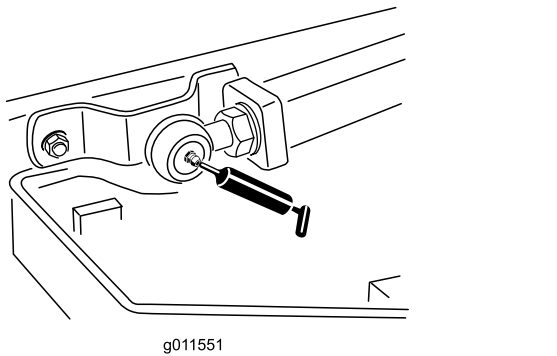

Figure 85
- 2 lift-arm ball joints (Figure 85)